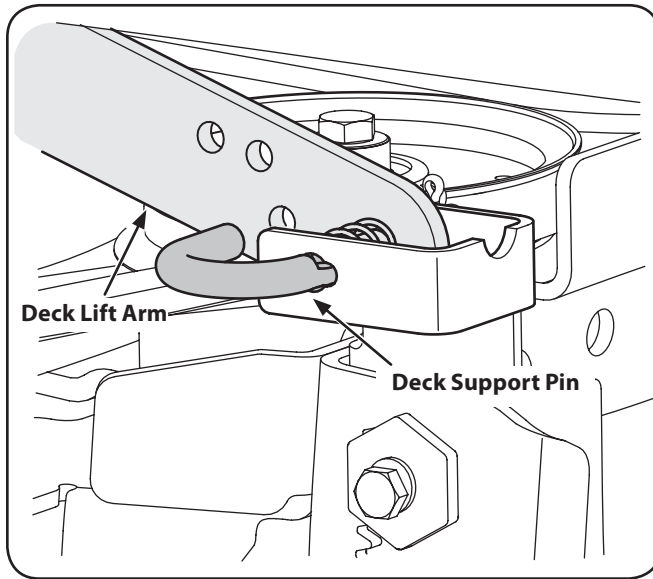

Figure 7-4
6. Pull the deck support pin outward to release the deck from the deck lift arm. See Figure 7-4.